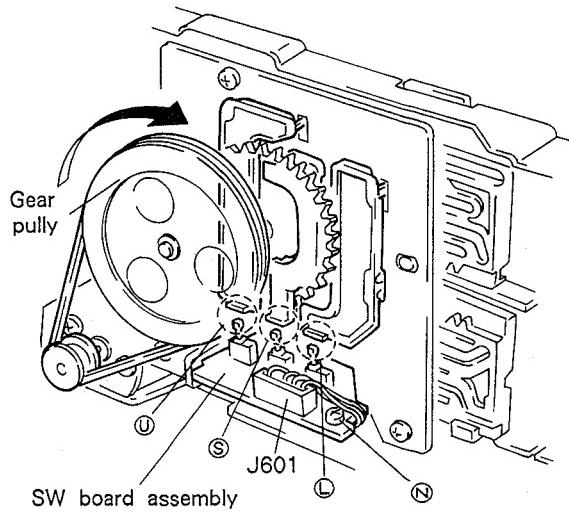

Fig. 2-6
7. Rotate gear-pulley by hand to the position that none of the three switches U, S and L is pressed (which is slightly forward position from the state that tray 1 overlaps tray 2). (Refer to Fig. 2-6)
8. Remove one screw **N** holding the SW board assembly and remove the SW board assembly. When attaching it, fix J601's lead wires to place between SW board assembly and chassis as shown in Fig. 2-6.
When attaching, be sure to guide the lead wires of J601 so that they are between the SW board assembly and the chassis. (Refer to Fig. 2-6)